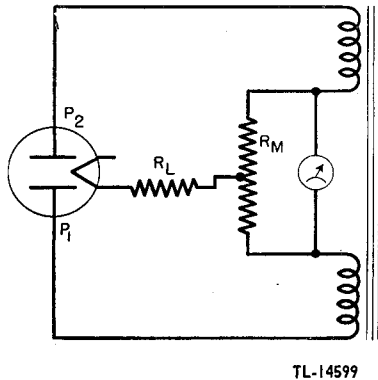

Figure 7. Tube Tester I-177, rectifier diagram illustrating theory.
a. Examine first the simple full-wave rectifier circuit shown in figure 7. The two power transformer secondary windings have their inner ends connected to a direct-current milliammeter. Across the milliammeter is a center-tapped resistor R_M . The load is shown as a resistance R_L , connected between the center tap and the rectifier filament as in any full-wave rectifier circuit. When rectifier plate P_2 is positive, electron flow is through the upper half of R_M , and the meter tends to deflect in one direction. When P_1 is positive, electron flow is through the lower half of R_M , and the meter tends to deflect in the other direction. With the load resistance fixed and equal forces acting on the meter in both cases, the meter stays at zero because it cannot follow variations at the power line frequency.